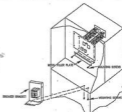

FIG. 1 HB2400 HEATER INSTALLATION
4. Slide heater assembly into blower section through the access opening (mounting position is important, check the label for correct position). Secure heater into place with screws provided. When installing heaters on HB2400VD size cabinets, use a metal filler plate (provided) to cover exposed cut out (see fig.1)
- i) On HB2400 units mount the circuit breaker bracket on the right side corner of the cabinet shelf. Insert the mounting screws through the blower deck from the blower side of the cabinet (see fig. 1).